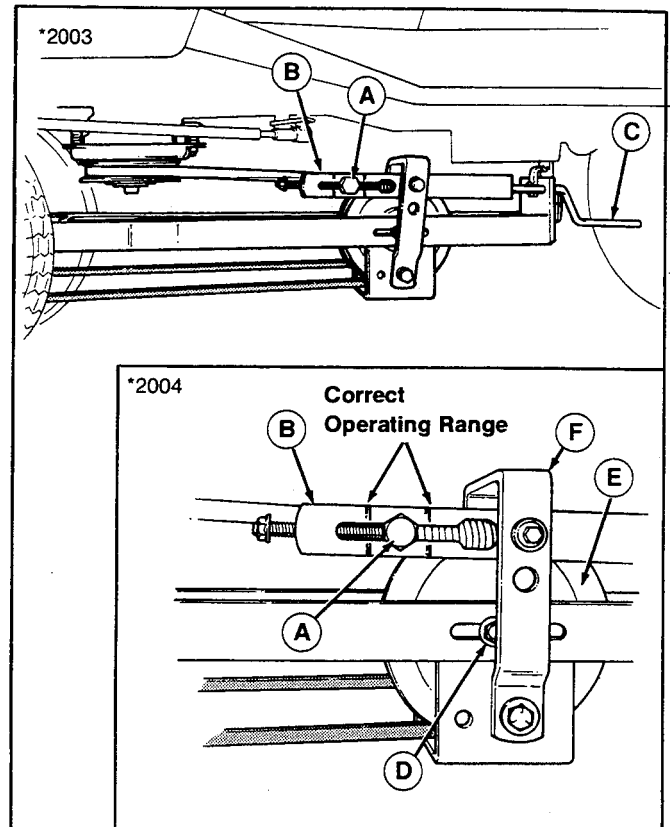

Figure 13. Adjust Belt Tension
1. With the snowthrower drive belt installed, trunion (A, figure 13) should be between marks on spring-tension bracket (B) for correct belt tension.
2. Turn belt tension handle (C) to move trunion forward or rearward until in correct range (between marks).
3. If trunion cannot be placed between marks, loosen capscrew (D) and reposition idler pulley (E) forward or back. The pivot bracket (F) should be perpendicular to snowthrower hitch. Retighten capscrew and repeat step 2.